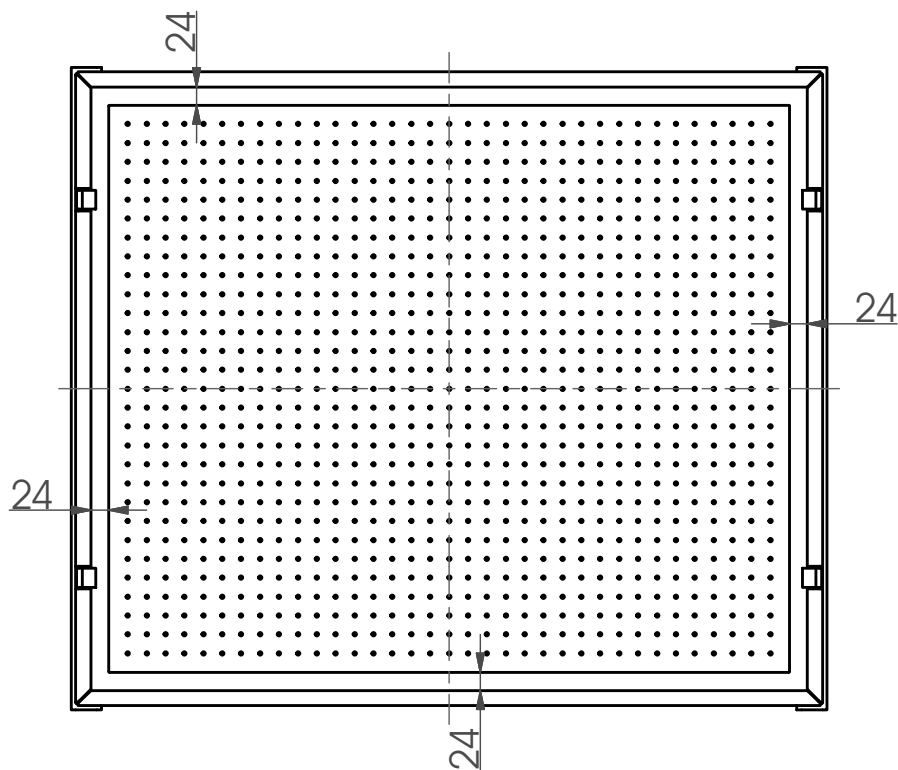

Fig. 4. Setting the breadboard into the base tray
- 2) When the system is completely floating, check the distance between the breadboard and the base tray (see fig. 4). Dimension must be 24 ± 1 mm.